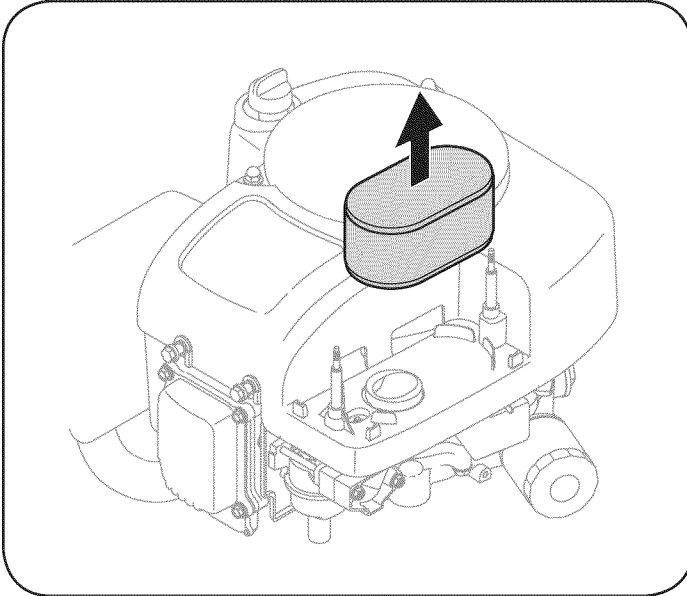

Figure 26
- Remove the air filter. See Figure 26.